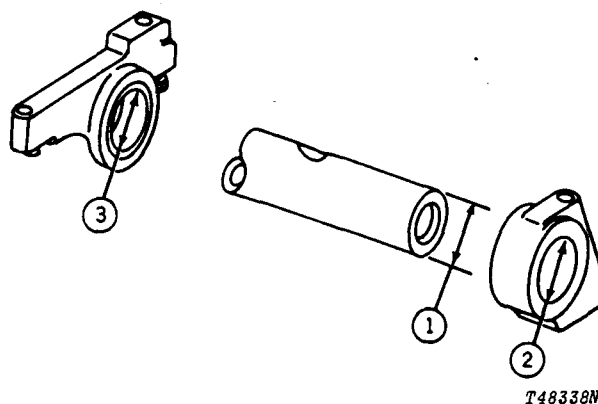

Fig. 46-Rocker Arm Measurement
O.D. (new) (1, Fig. 46) 0.787 to 0.788 inch